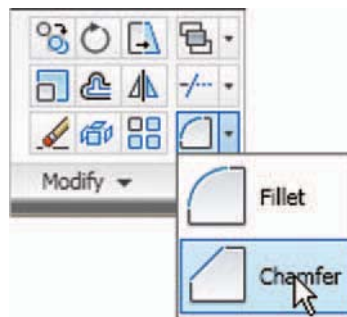

Fig. 5.43 Select **Chamfer** from the **Home/Modify** panel
2. Call Chamfer – *click* the arrow to the right of the tool icon in the **Home/Modify** panel and select **Chamfer** from the menu which appears (Fig. 5.43), *click* on its tool icon in the **Modify** toolbar, *pick* **Chamfer** from the **Modify** drop-down menu, or *enter* **cha** or **chamfer** at the command line which then shows: